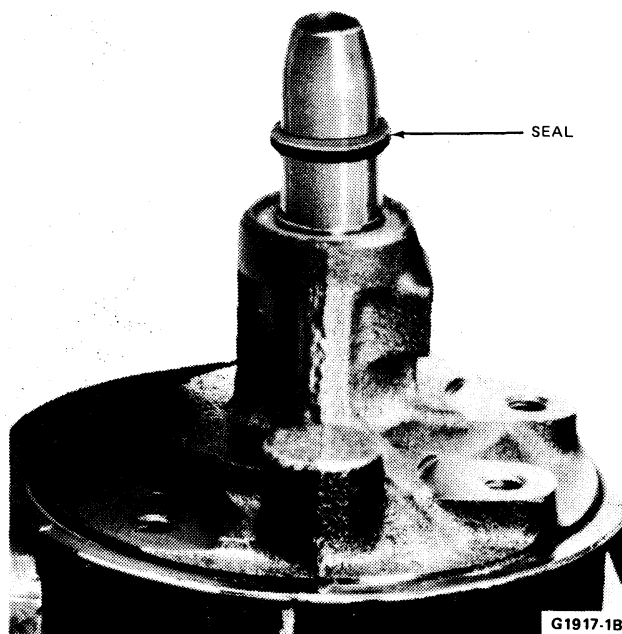

FIG. 4 Installing the Rotor Shaft Seal
3. Install the seal (Fig. 4) using shaft seal installer Tool T72P-3B592-A. Tap the tool lightly with a small hammer until the seal is properly seated in the shaft hub.